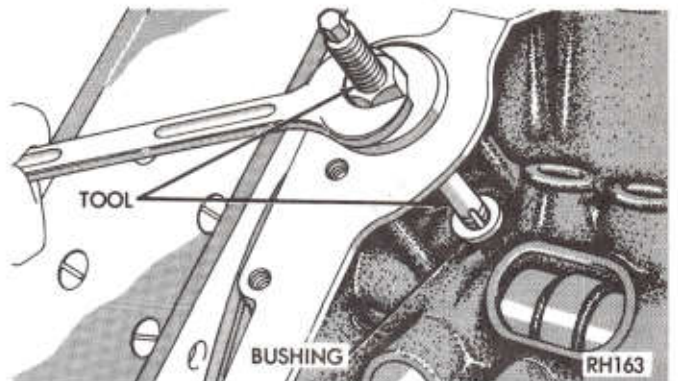

Fig. 37—Removing Distributor Driveshaft Bushing with Tool C-3052
(1) Insert Tool C-3052 into old bushing and thread down until a tight fit is obtained (Fig. 37).
(2) Hold puller screw and tighten puller nut until bushing is removed.